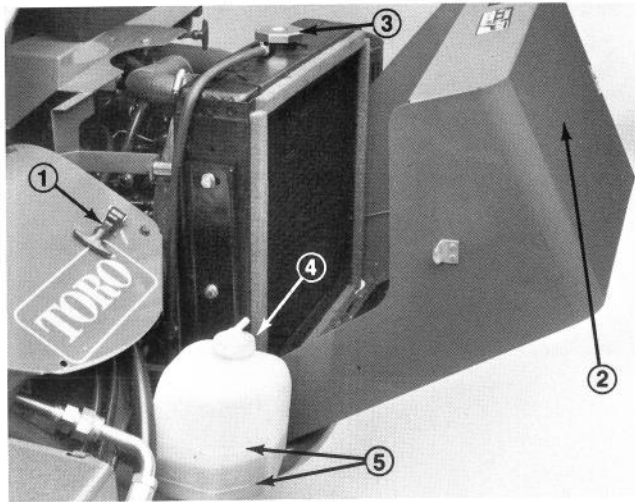

Figure 11
2. Remove dipstick from the left front of the engine, wipe end with a clean rag and insert it fully into the dipstick tube (Fig. 11). Remove dipstick and check oil level. If oil level is low, proceed to step 3. If oil level is up to the FULL mark on the dipstick, insert the dipstick and close and latch the hood. Continue with pre-operating procedures.
3. If oil level is low, unscrew the oil fill cap from the top of the engine (Fig. 11). Add a small quantity of a high-quality SAE 30 or 10W-30 detergent oil having the American Petroleum Institute — API — "service classification" CD and recheck the dipstick level. Continue until the oil level is up to the FULL mark on the dipstick. Do not overfill.